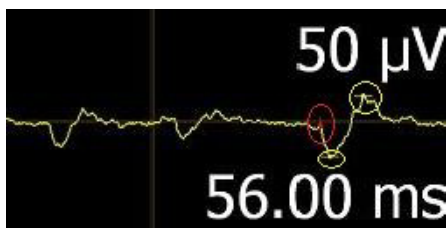

Fig. 89. EMG response markers circled
Basic response detection draws three markers on the EMG curve (Figure 89):
- Red marker: The beginning of the response. Latency is the distance from the stimulus (marked with the vertical line) to the beginning of the response. (56.00 ms in Figure 89.)
- Two yellow markers: Peaks of the response. Peak-to-peak is the distance between the two markers. (50  $\mu\text{s}$  in Figure 89.)
Figure 89 displays the response markers, which can be used to modify the detected peak-to-peak and latency values.